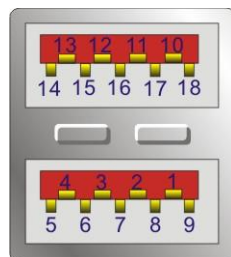
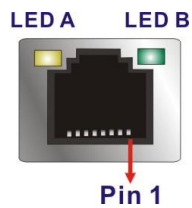

Figure 3-32: External dual USB 3.2 Gen 2 connectors
Figure 3-33: LAN LED Location
- CN Location:** See Figure 3-32, Figure 3-33